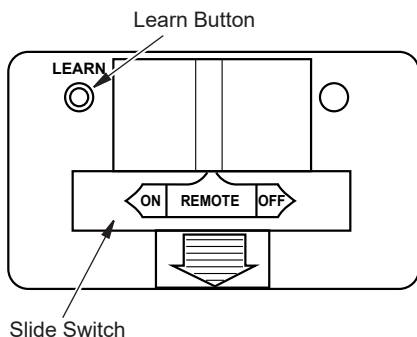

Figure 27 - Receiver
1. Place the slide switch on the receiver in the remote position (see Figure 27).